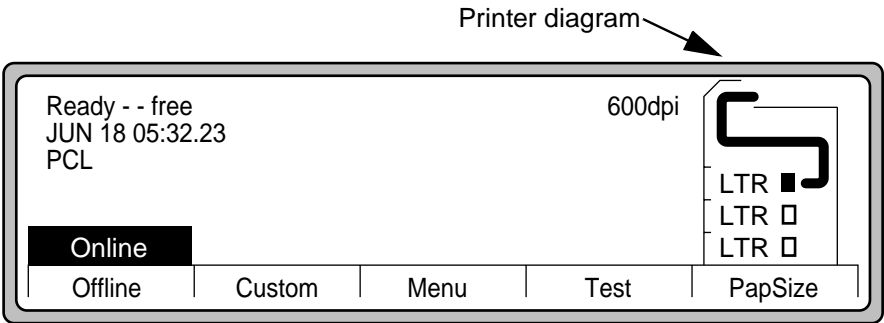
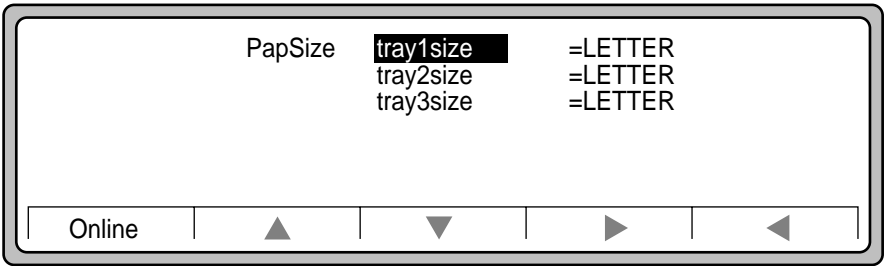

Figure 2-70 Control Panel Display, Main Screen
Figure 2-71 PapSize Menu
The right hand side of the Control Panel display shows a diagram of the printer. The display includes installed paper trays and associated paper sizes as shown in Figure 2-70.
1. Press the **PapSize** button on the **Main Screen** (see Figure 2-70) to display the Pap-Size menu shown in Figure 2-71.